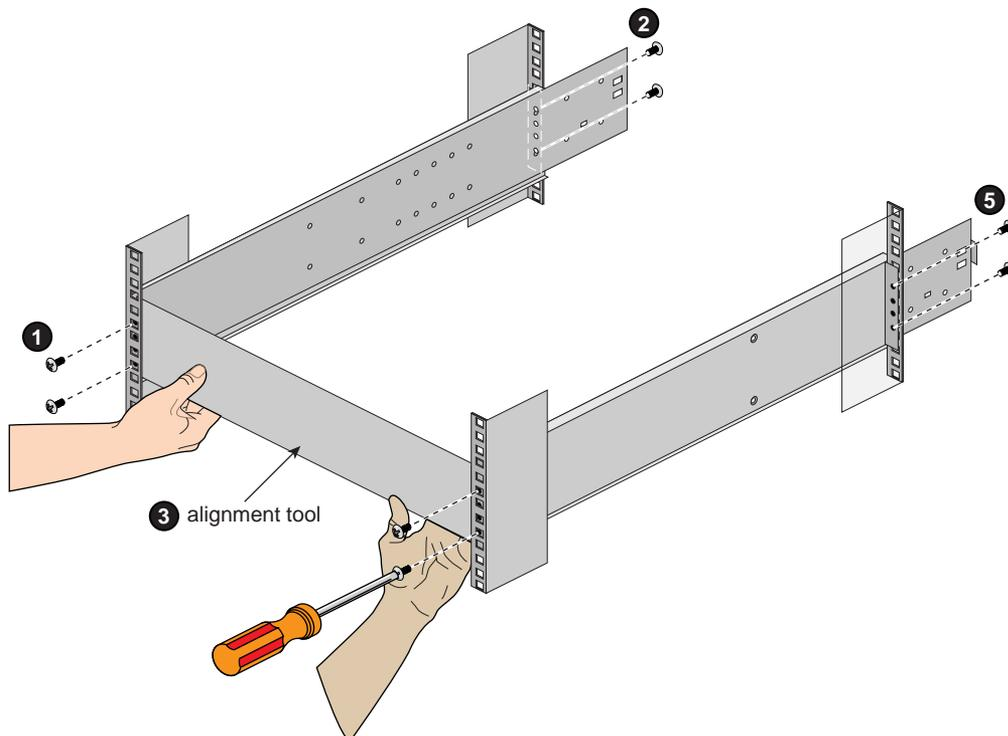

Figure 2-4 Adjustment Using the Alignment Tool
3. Adjust the right rail until it is flush with the alignment tool and the left rail. Insure that the tool can be slid smoothly from the front to rear of the rack. This step is also best accomplished with two people, as shown in Figure 2-4 on page 16.